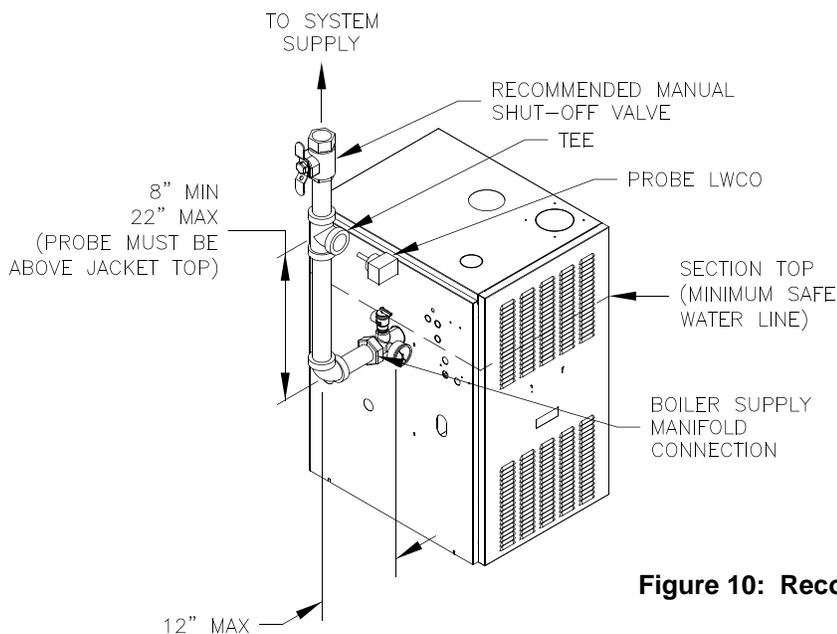

Figure 10: Recommended Probe LWCO Location
- When constructing a piping tree to install LWCO select fittings (tees, elbows etc) and nipples to have the same size (NPT) as boiler supply connection. At minimum, 1-1/4" tee with 3/4" branch outlet is required to connect the probe LWCO to the supply piping. See Figure 10. **DO NOT REDUCE THE SIZE OF NEAR BOILER SUPPLY FITTINGS AND NIPPLES.**